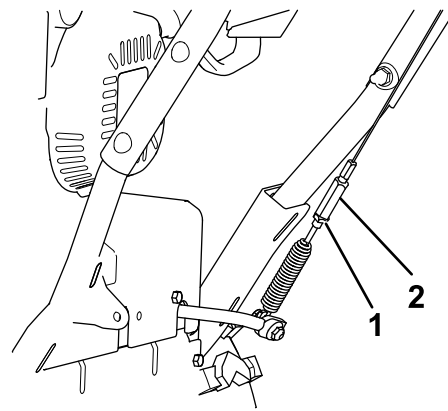

Figure 36
5. Loosen the jam nut (Figure 36).
6. Loosen or tighten the turnbuckle that adjusts the tension on the cable (Figure 36).